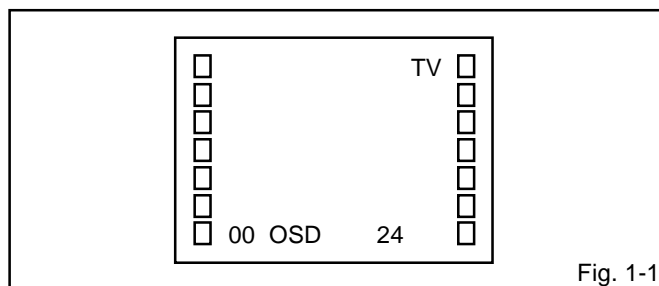

Fig. 1-1
Press the VOL. DOWN button on the set and the Channel button (9) on the remote control for more than 1 second to appear the adjustment mode on the screen as shown in Fig. 1-1.
2. Activate the adjustment mode display of Fig. 1-1 and press the channel button (01) on the remote control to select "CUT OFF".
4. Activate the adjustment mode display of Fig. 1-1 and press the channel button (10) on the remote control to select "R. DRIVE".
3. Activate the adjustment mode display of Fig. 1-1 and press the channel button (03) on the remote control to select "H.PHAS".
3. Activate the adjustment mode display of **Fig. 1-1** and press the channel button **(07)** on the remote control to select "V.SIZE".
3. Activate the adjustment mode display of **Fig. 1-1** and press the channel button **(08)** on the remote control to select "V.LIN".
3. Activate the adjustment mode display of **Fig. 1-1** and press the channel button **(16)** on the remote control to select "BRI CENT".
8. Activate the adjustment mode display of **Fig. 1-1** and press the channel button **(16)** on the remote control to select "BRI CENT".
4. Activate the adjustment mode display of **Fig. 1-1** and press the channel button **(24)** on the remote control to select "TINT".
13. Activate the adjustment mode display of **Fig. 1-1** and press the channel button **(24)** on the remote control to select "TINT".
1. Activate the adjustment mode display of **Fig. 1-1** and press the channel button **(18)** on the remote control to select "CONT.MAX".